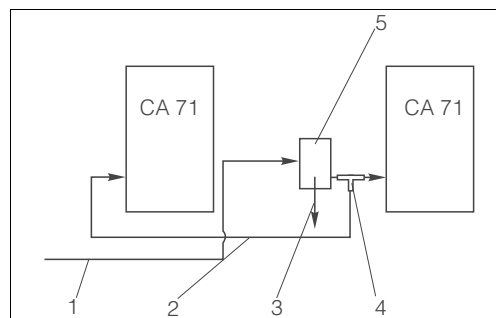

Fig. 11: Installation example
- Distance between the analysers as short as possible: sampling line between T-piece and the second analyser (Fig. 11, item 2) shorter than 1.5 m